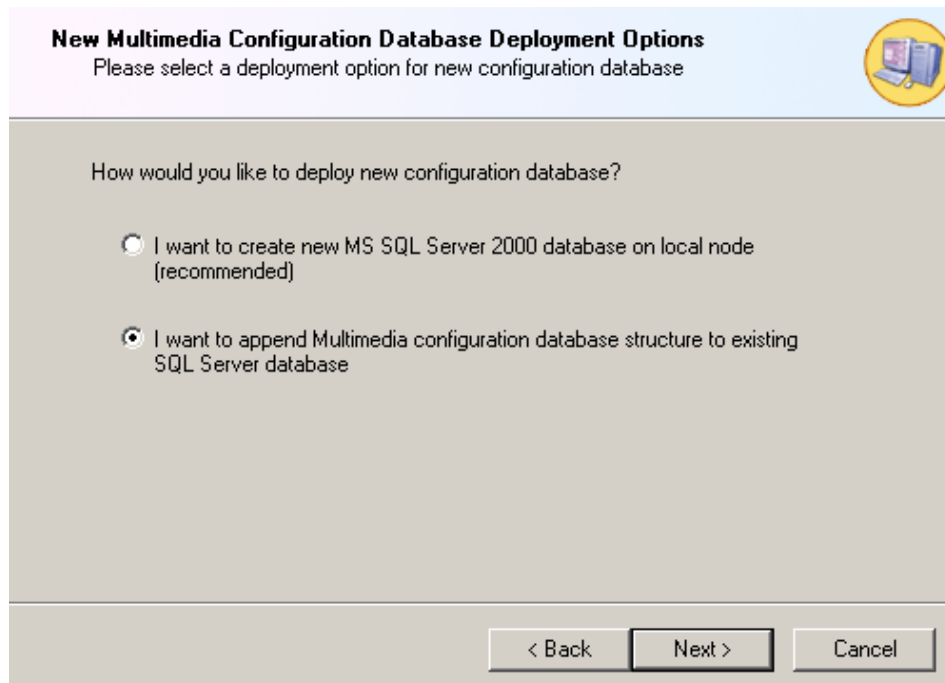

Figure 1.20. Adding the Configuration to an Existing Database
1. If you decide to use this option, select **I want to append the Multimedia Configuration Database structure to existing SQL Server database**, as shown in Figure 1.20. Click the **Next** button to continue.